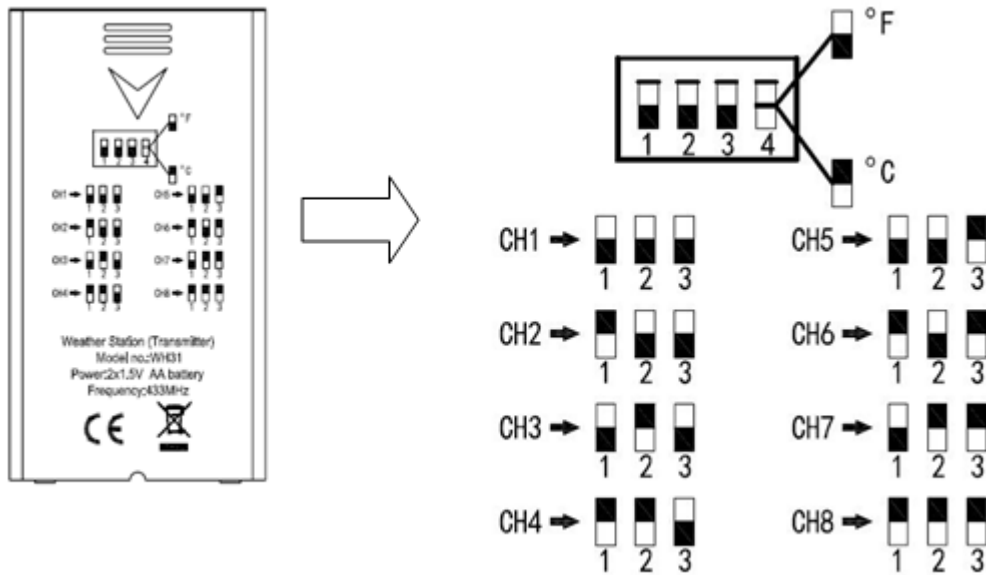

Figure 24
3. **Channel Number:** The ObserverIP supports up to eight transmitters. To set each channel number (the default is Channel 1), change Dip Switches 1, 2 and 3, as referenced in Figure 24.
4. **Temperature Units of Measure:** To change the transmitter display units of measure ($^{\circ}\text{F}$ vs. $^{\circ}\text{C}$), change Dip Switch 4, as referenced in Figure 24.